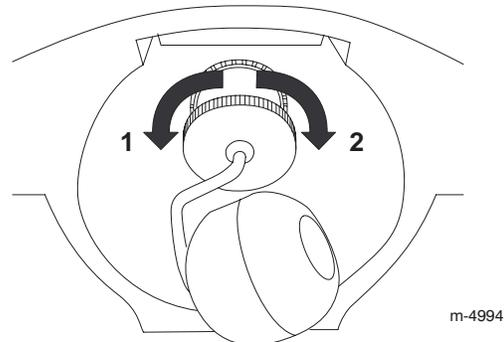

Figure 17
3. Rotate the wheel base (Fig. 17) counterclockwise to raise the cutting height or clockwise to lower the cutting height.